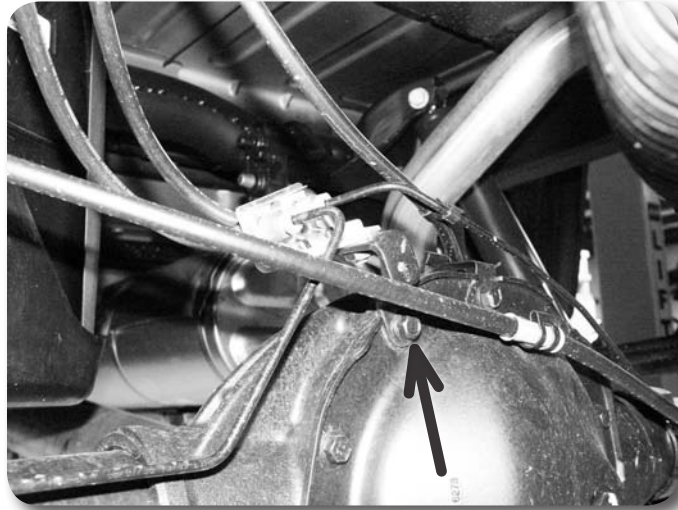

Figure 42
4. Disconnect the rear brake line bracket from the top of the differential **Figure 42**. Save hardware.